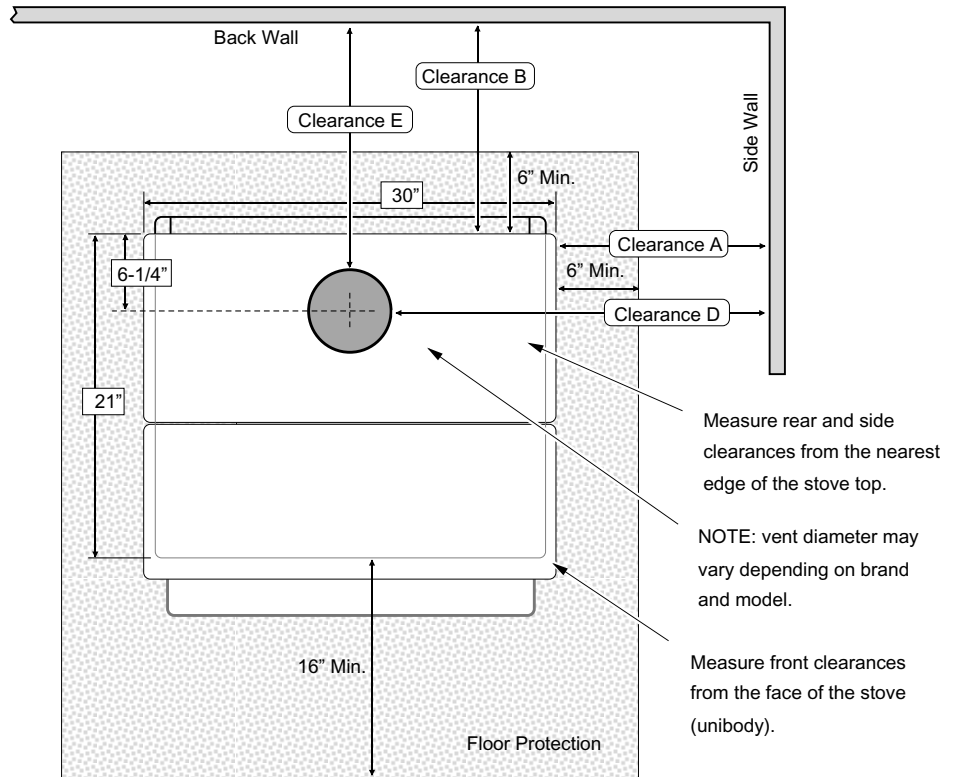
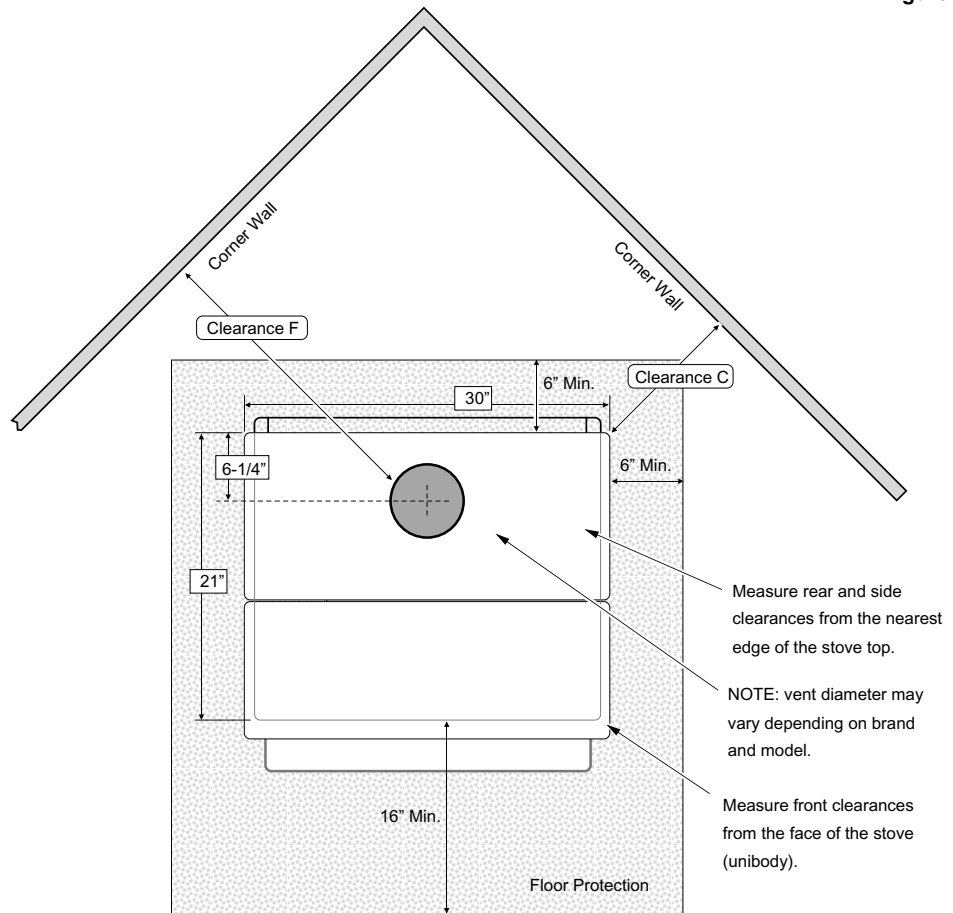

Figure 2
Figure 3
- Floor protection must extend 6" to the sides and rear of the stove and 16" to the front of the stove (42" wide by 43" deep - see Figure 2 and Figure 3).
- The following clearances must be met (see Figure 2 and Figure 3)